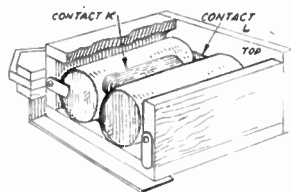

Fig. 1—Batteries in box
Proceeding with the stand or 'box', we first look at the sectional diagram Fig. 1. Note how the battery lies in the 'box', how it is held in place by two movable brass lugs, and how the contacts are arranged. The sides, ends and top of the box, and also the ornamental
Later on, when the side foot pieces are glued on, a round-head screw about $\frac{1}{2}$ in. or so long will be run in, round which again a short loop of flex is bound and allowed to project into the box to make contact with the side brass plate on the battery at (K), Fig. 1. The switch handle (N) on the pattern sheet will be put over the screw (J) at the same time the wire is threaded through at this place.